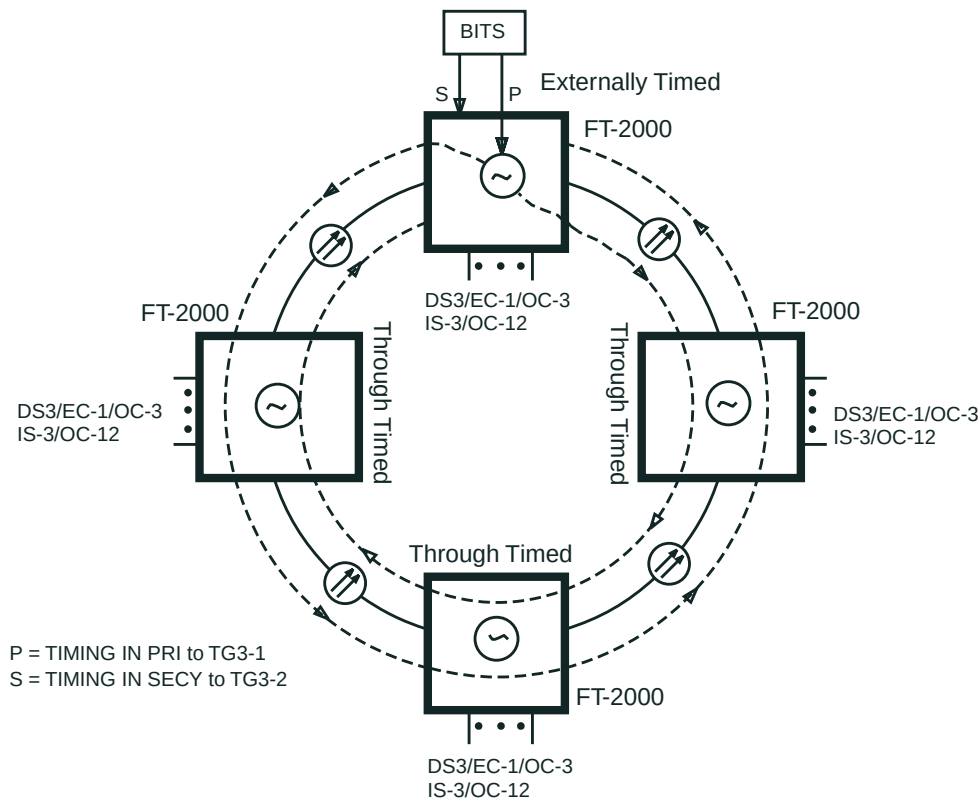
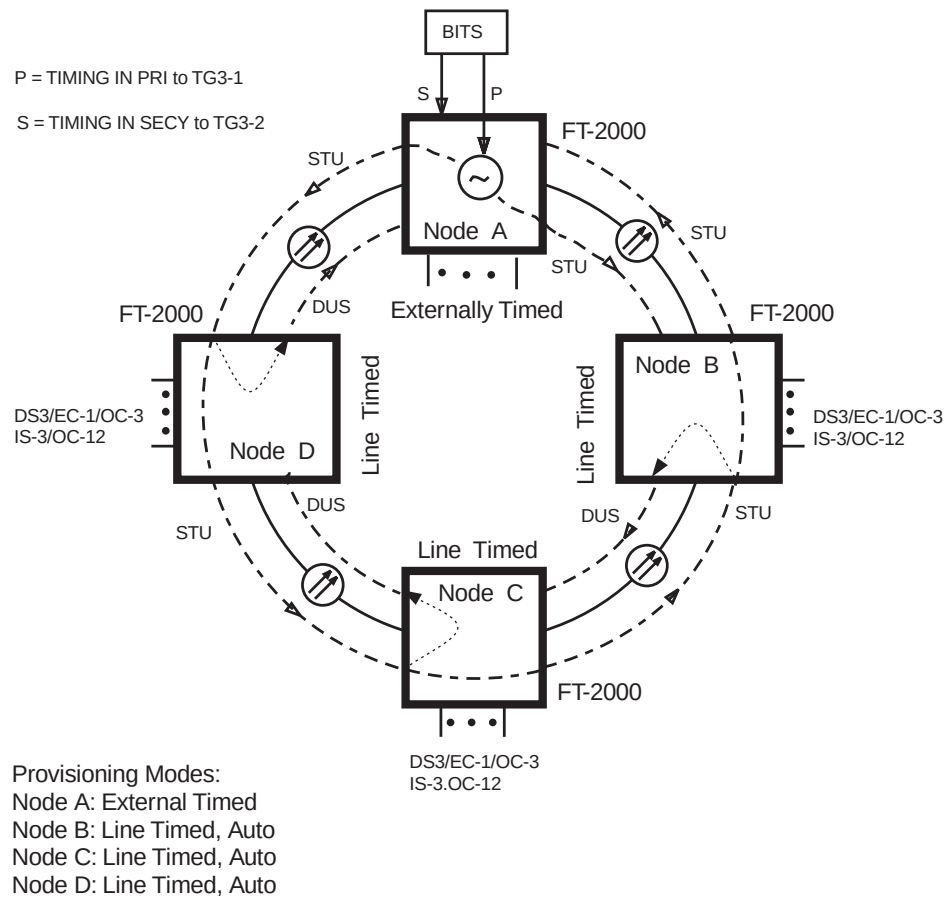

Figure 5-18. Example of a Ring Application with One Node Provisioned Externally Timed and All Other Nodes Provisioned Through Timed (Without Timing Drops)
Figure 5-19. Example of a Ring Application with One Node Provisioned Externally Timed and All Other Nodes Provisioned Line Timed (Without Timing Drops)
- **One node provisioned externally timed; all other nodes provisioned through timed, line timed, or externally timed:** This configuration (Figure 5-18, Figure 5-19, and Figure 5-20) is used with asynchronous (DS3) or synchronous (EC-1, OC-3 and/or OC-12) low speed interfaces, or a mix of synchronous and asynchronous low speed interfaces. These configurations also prevent the need of having to reprovision a node when synchronous low speed interfaces are added. The timing signals used to synchronize the externally timed nodes should be traceable to a high quality source(s). If synchronous low speed interfaces are present, the timing signals must be traceable to a stratum 1 source. If only
In (Figure 5-19) synchronization messages (DUS and STU) are shown as they are transmitted on the OC-48 line.